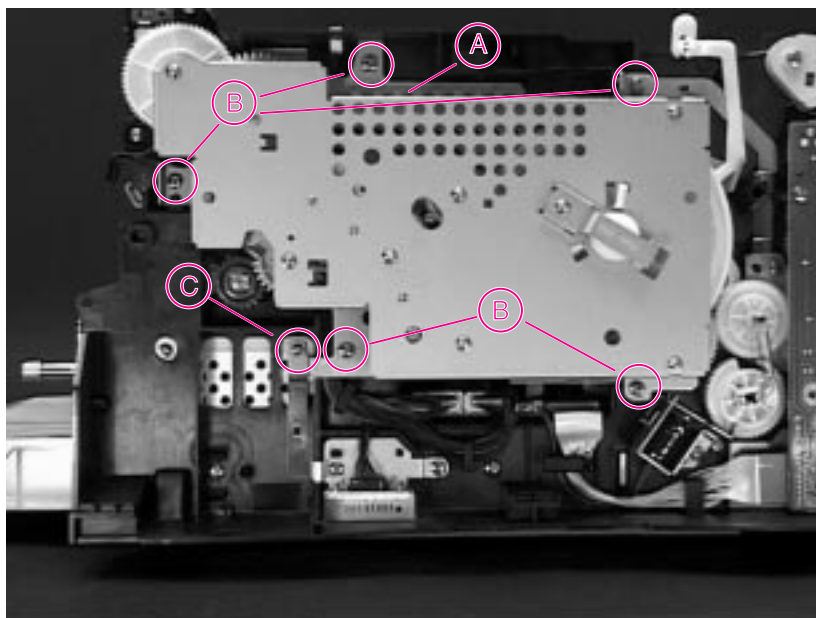

Figure 6-27 Main Gear Assembly, Left Side
- 2 The Main Motor is located on a PCA (see Figure 6-27) on the back side of the Gear Assembly. Disconnect the Main Motor Cable.